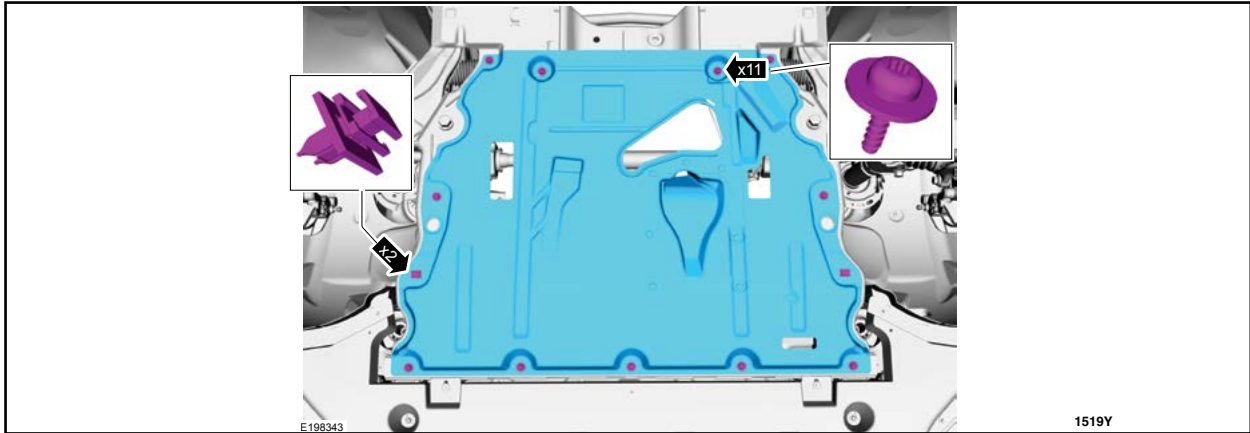

FIGURE 2
1. Remove the underbody shield. See Figure 2.
3. Install the underbody shield. See Figure 2.